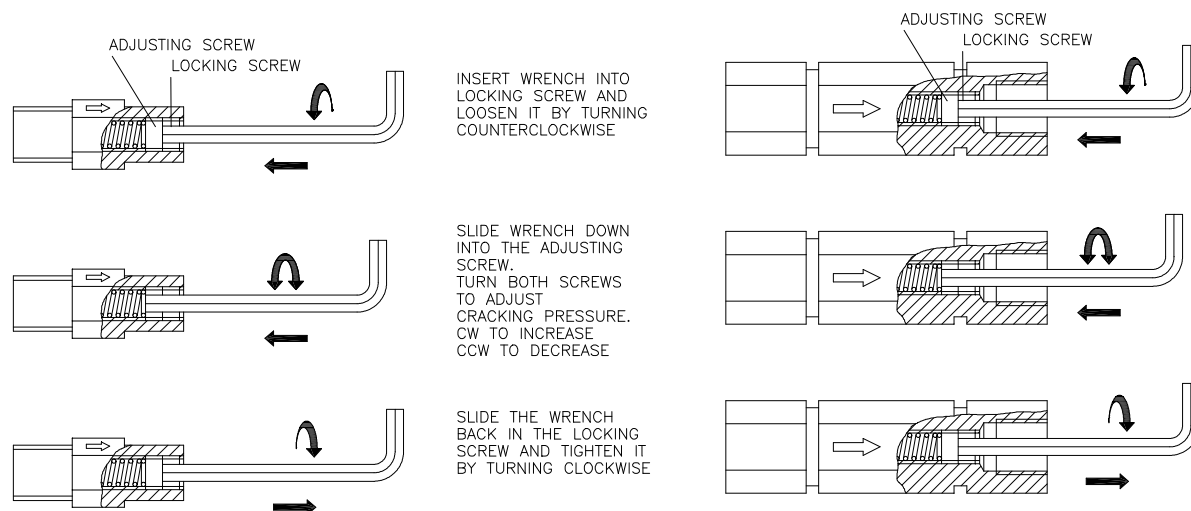

Figure 9-3 Check valve adjustment
- Adjust check valve to desired pressure as indicated in Figure 9-3.
- Adjust check valve switching pressure analogue to Figure 9-3